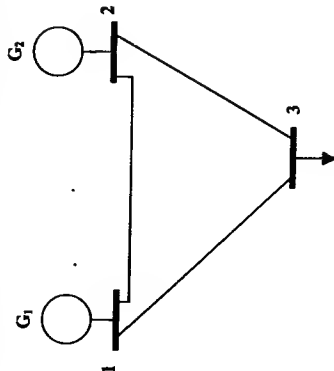

Fig. 2
2. The data of the sample power system shown in Figure 2 are given in Tables 1 and 2. Using Gauss-Seidel iterative algorithm, perform 2 iterations and check the convergence after each iteration. Use a voltage magnitude tolerance of 0.001, an acceleration factor of 1.6 and 100 MVA base.